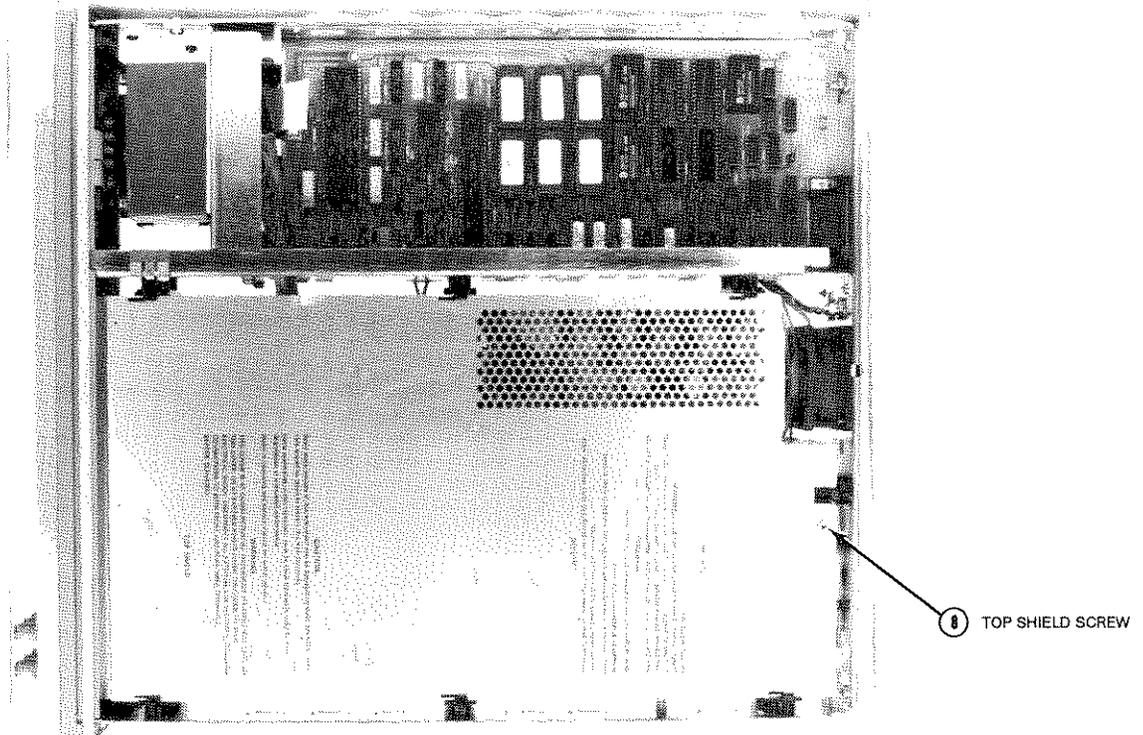

Figure 3-6. Remove/Install Top Shield Screw
17. Refer to Figure 3-6. Turn the instrument over so its bottom sits on your workbench.
3. Refer to Figure 3-6. Turn the instrument over so its bottom sits on your workbench.